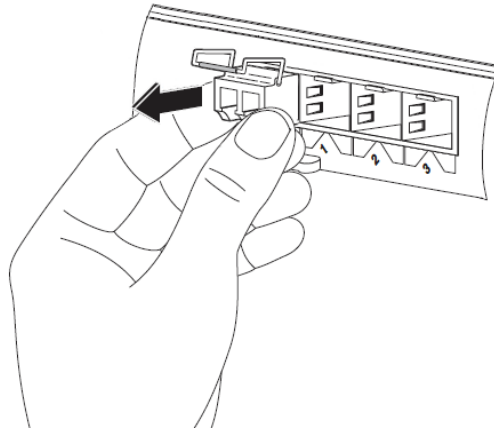

Figure 11 : Removing an SFP+ Module from the port
4. Grasp the module between your thumb and index finger and carefully remove it from the port, as shown in Figure 11.